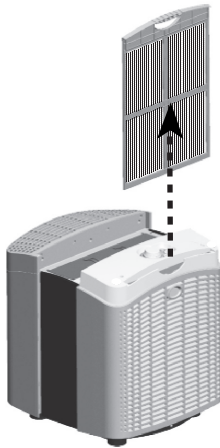

Fig. 5 - Removing the Pre-Filter
1. Remove the Pre-Filter. See Figure 5. Note the Pre-Filter's orientation, as it must be reinstalled in the same orientation. Use a vacuum cleaner with upholstery attachment to clean the Pre-Filter. Vacuum gently until all dust and debris is removed. Return the Pre-Filter to the unit.